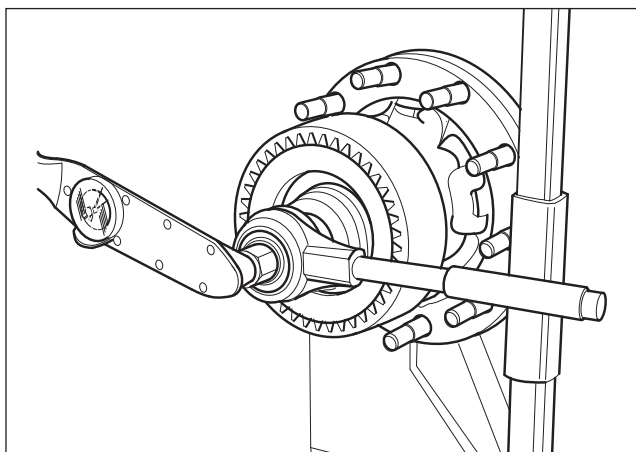

Fig. 2.10
2. Undo the nut using a wrench. Remove the hub nut and discard. - Fig. 2.10